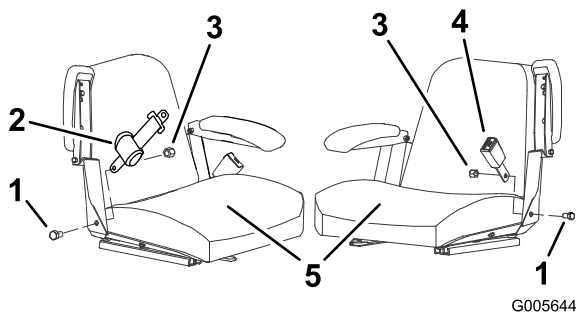

Figure 2
- Remove the existing seat belt retractor and receiver from the seat by removing the nut and bolt securing the belt assemblies to the seat (Figure 2).
- Install the new seat belt retractor and receiver with 2 bolts (7/16 x 1 inch) and 2 nuts (7/16 inches) (Figure 2).